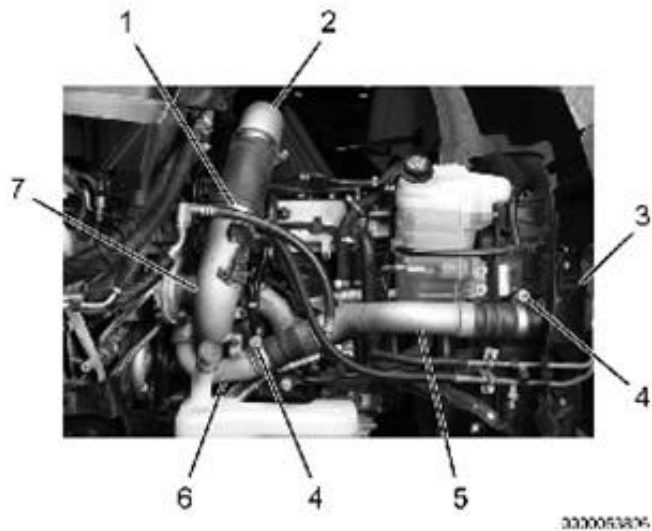

Figure 16. Turbocharger Connections
4. HPCAC clamp (2)
17. Install HPCAC pipe (Figure 16, Item 5) on HPCAC (Figure 16, Item 3) and HP turbocharger outlet duct (Figure 16, Item 6), and secure with two HPCAC clamps (Figure 16, Item 4).
18. Install air inlet duct (Figure 16, Item 2) on LP turbocharger inlet duct (Figure 16, Item 7), and secure with air inlet duct clamp (Figure 16, Item 1).